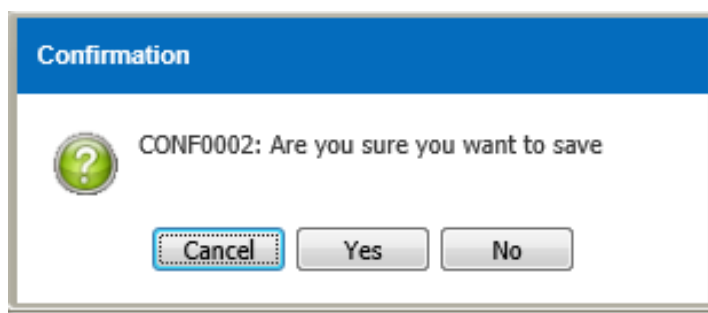

Figure 3.5.1-3 Confirmation Message
- Confirmation message as shown in Figure 3.5.1-3 will be displayed after user save the record
- Record will save when user click on the  button as shown in Figure 3.5.1-4